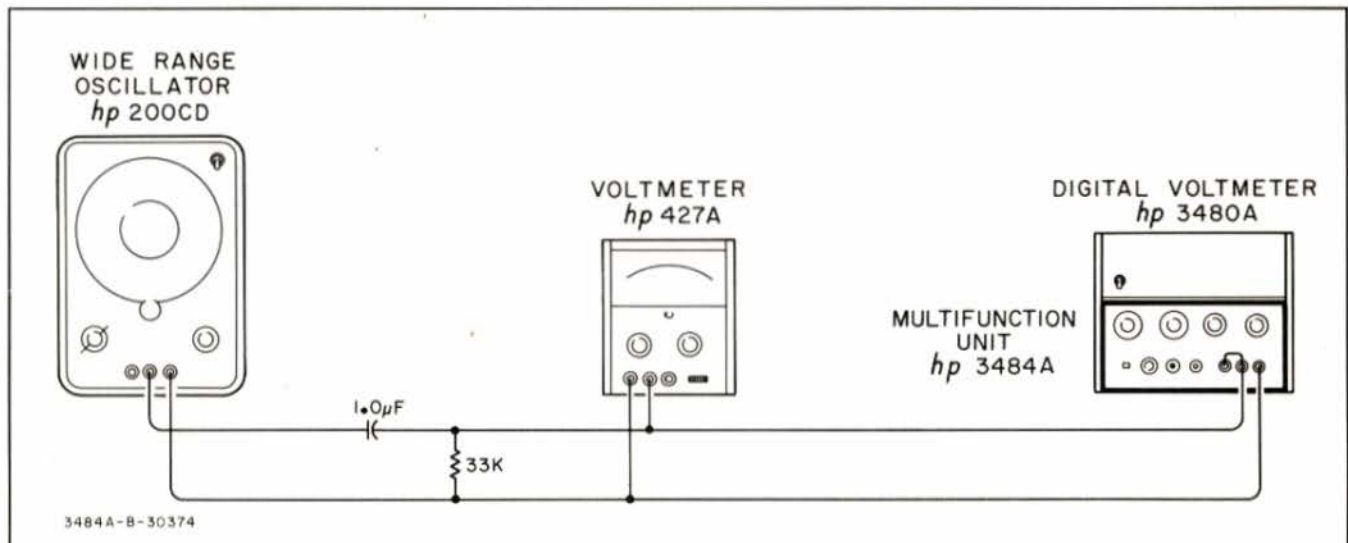

Figure 5-5. AC Normal Mode Rejection Check.
- a. Connect oscillator, 1.0 μF capacitor, 33 kΩ resistor, and ac voltmeter to 3484A input as shown in Figure 5-5. The capacitor blocks any dc present in the oscillator output, and the resistor provides a low source impedance for the 3484A. The ac voltmeter must be battery operated.